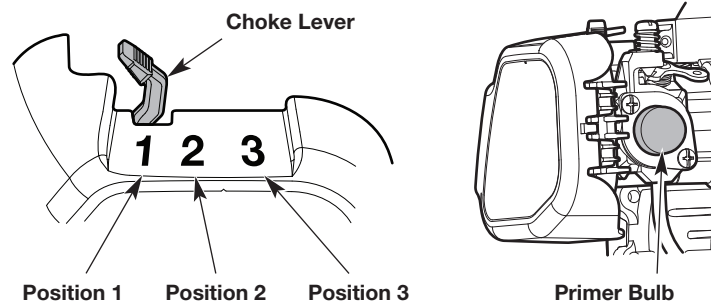

Fig. 10
1. Slowly press and release the primer bulb **10 times** (Fig. 10). If fuel cannot be seen in the primer bulb, press and release the primer bulb until fuel is visible.
2. Move the choke lever to **Position 1** (Fig. 10).
6. Move the choke lever to **Position 2** (Fig. 10).
9. Move the choke lever to **Position 3** (Fig. 10). Allow the engine to warm up for an additional 60 seconds. The unit may be used during this time.
**IF...** the engine hesitates, return the choke lever to **Position 2** (Fig. 10) and continue the warm-up.
7. Move the choke lever to **Position 2** (Fig. 10).
11. Move the choke lever to **Position 3** (Fig. 10). Allow the engine to warm up for an additional 60 seconds. The unit may be used during this time.